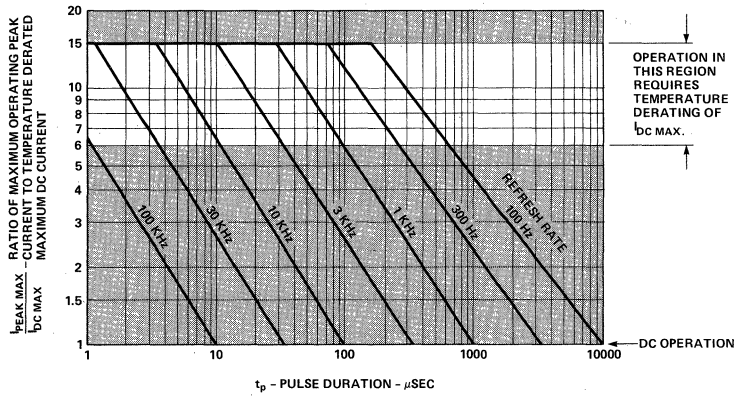

Figure 1. Maximum Tolerable Peak Current vs. Pulse Duration.
Figure 1 relates refresh rate,  $f$ , and pulse duration,  $t_p$ , to a ratio which defines the maximum desirable operating peak current as a function of derated dc current,  $I_{P\text{ MAX}}/I_{DC\text{ MAX}}$ . To most effectively utilize Figure 1, perform the following steps:
- Enter Figure 1 at the calculated  $t_p$ . Move vertically to the refresh rate line and then record the corresponding value of  $I_{P\text{ MAX}}/I_{DC\text{ MAX}}$ .